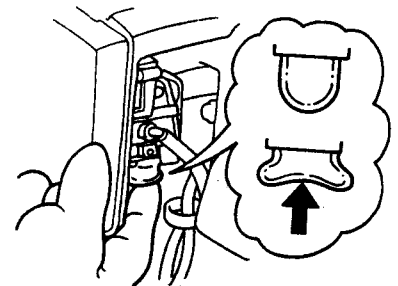

FIG 13
3. Press and release the primer bulb 5 times (Fig. 13).